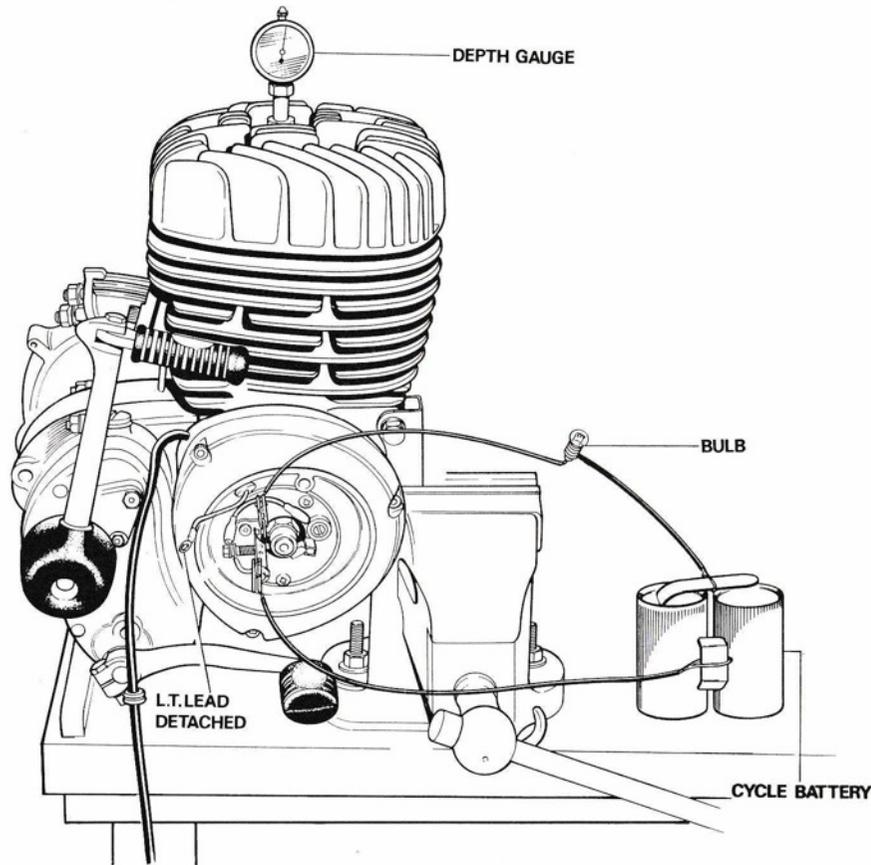

Fig. 44 Checking piston position using a dial gauge, also checking ignition timing with battery and timing light.
- 3 Turn the engine to bring the piston to top dead centre (TDC) – this is indicated by the swing of the needle on the depth gauge ($\cdot 125$ in./ $3\cdot 2$ mm. on 410) (see Fig. 44).
- 4 Attach a battery and timing light – one lead to earth and one to the points as shown in Fig. 44.